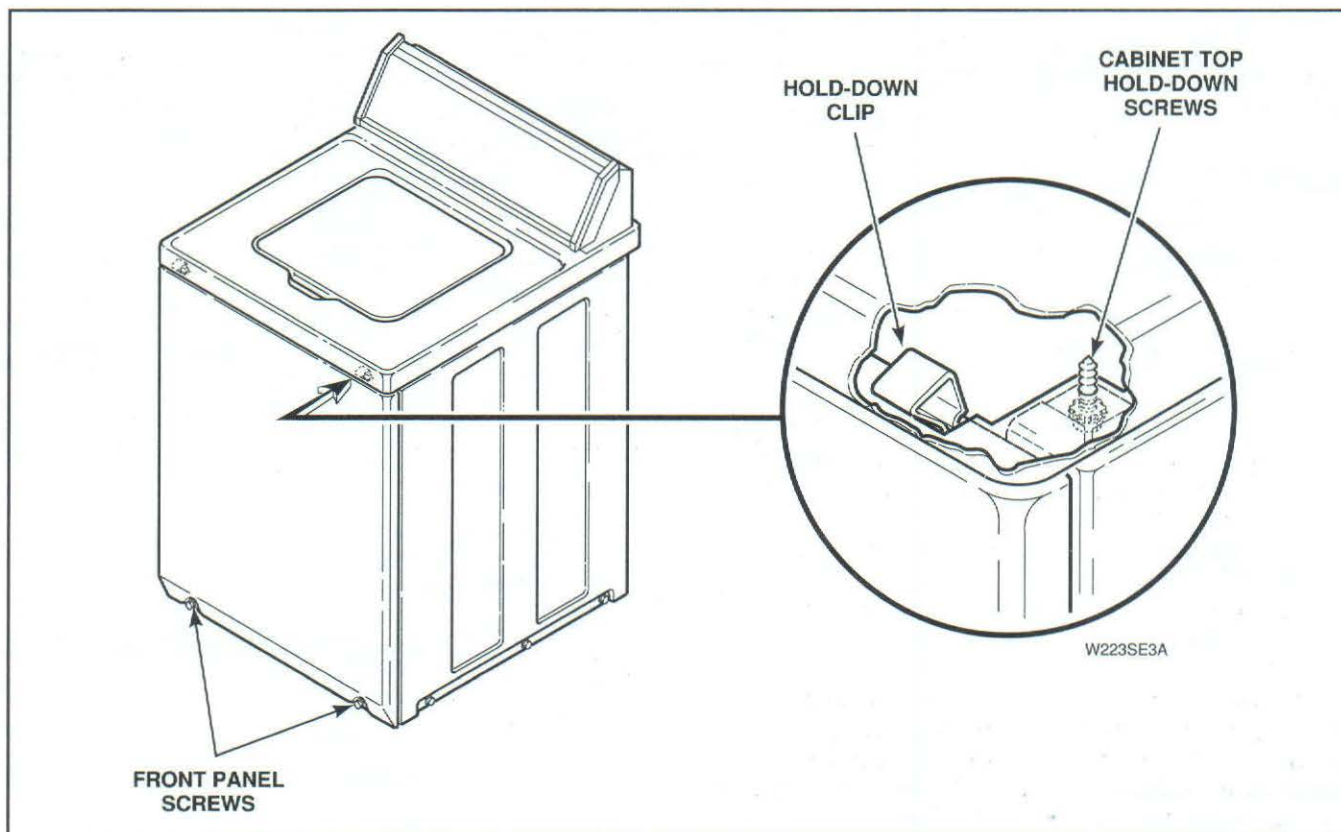

Figure 21
13. FRONT PANEL (Figure 21)
- Remove two screws from bottom edge of front panel, *Figure 21*.
- a. Remove two screws from bottom edge of front panel, *Figure 21*.